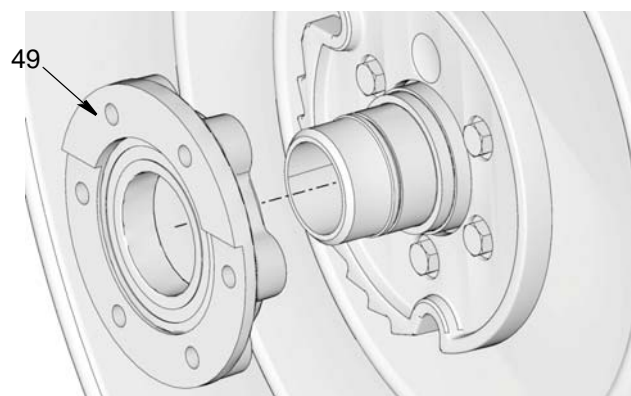

FIG. 22
- b. Slide bearing seal and retainer assembly (49) off shaft (FIG. 22).